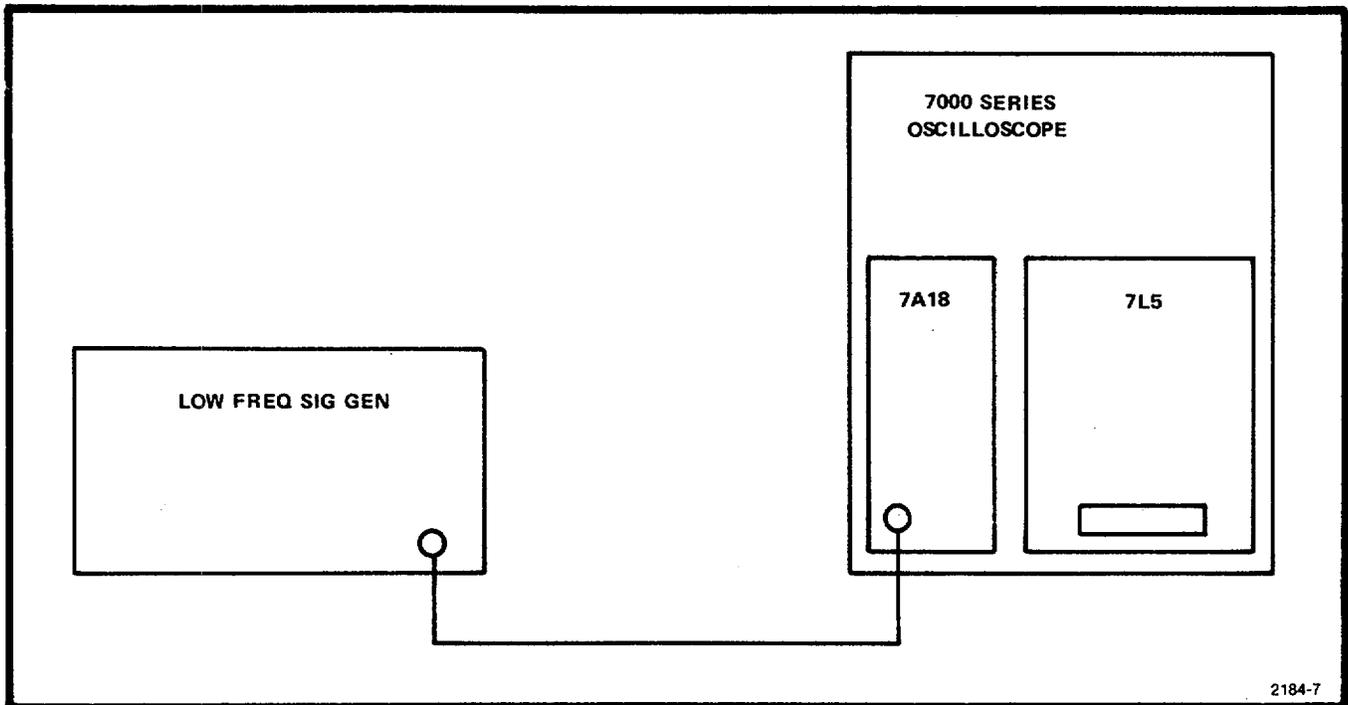

Fig. 3-1. Sweep triggering test equipment setup.
- a. Connect the test setup per Fig. 3-1.